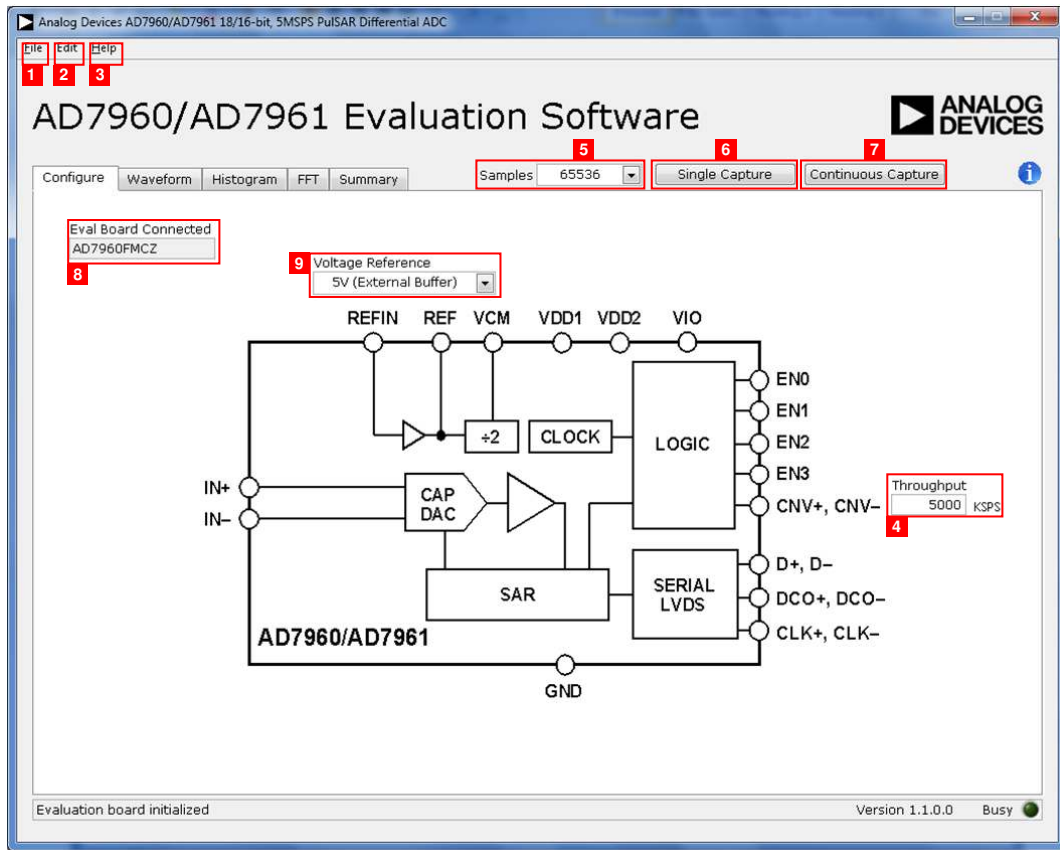

Figure 19. Setup Screen
1. From the **Start** menu, select **Programs > Analog Devices > AD7960\_61 Evaluation Software**. The main window of the software then displays (see Figure 19). If the evaluation system is not connected to the USB port via the EVAL-SDP-CH1Z when the software is launched, a connectivity error displays (see Figure 17).
This section describes the full software operation and all windows that appear. When the software is launched, the panel opens and the software searches for hardware connected to the PC. The user software panel launches as shown in Figure 19. The labels listed in this section correspond to the numbered labels in Figure 19.
The File menu, labeled 1 in Figure 19, offers the choice to